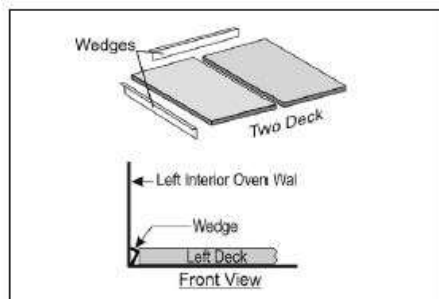

Figure 7
- (d) Use wedges in the back and on the sides of the deck if the decks are loose (See Fig.7).